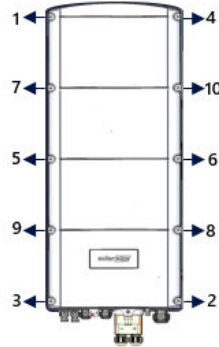

Figure 4 Removing the Inverter Cover
10. Remove the Inverter cover – release the screws in the order shown in Figure 4.
13. Close the Inverter cover – make sure to torque the screws in order (see Figure 4).